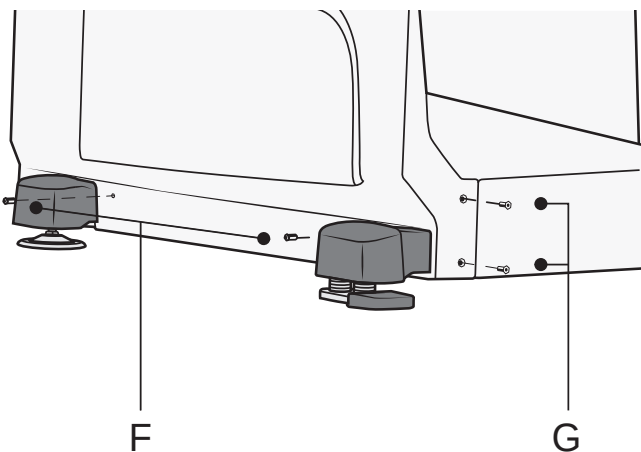

Figure 106
2. Remove the inner side panels by removing the two screws (F) on the sides and the two screws (G) at the head end, then lift straight up. See Figure 106.